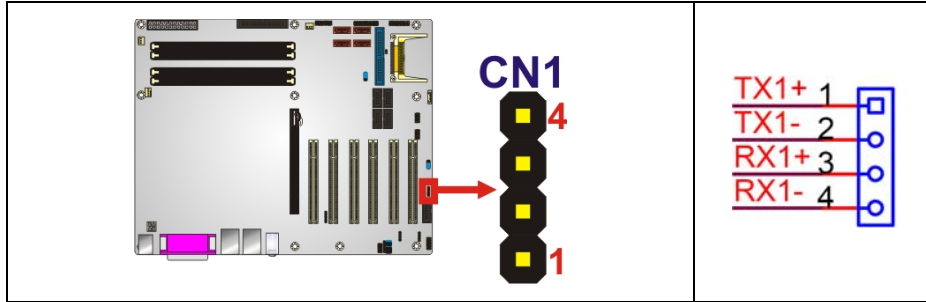

Figure 4-21: Serial Port Connector (RS-422/485) Pinout Locations
- CN Location:** See Figure 4-21